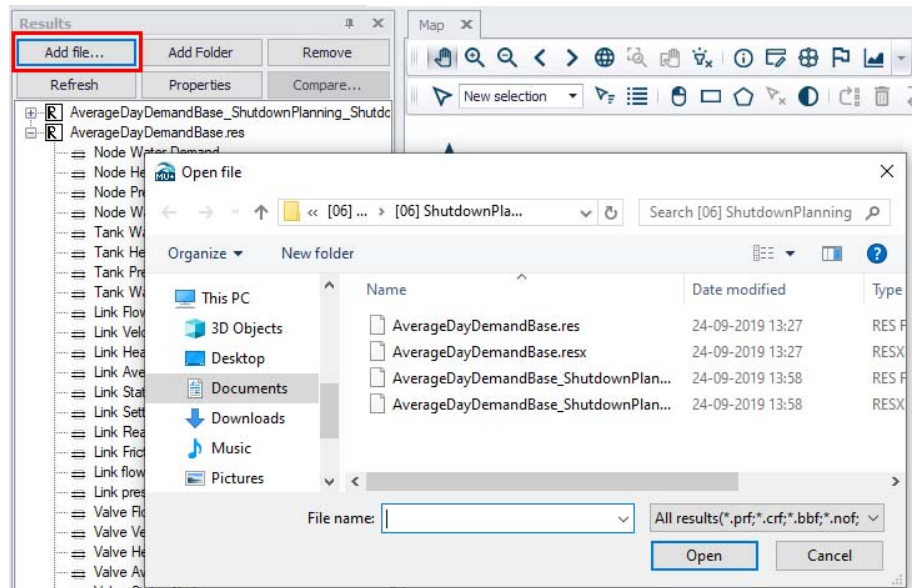

Figure 20.3 Load model results using the 'Add file...' button on the Results panel
- Click on the 'Add file...' button and navigate to the result file you wish to load (Figure 20.3).